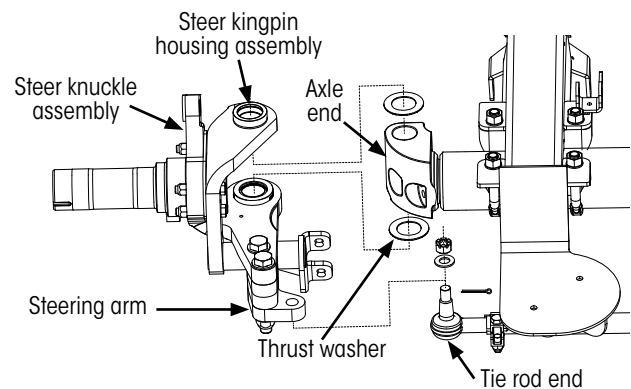

Figure 22: Steer knuckle removal
11. **Remove** the steer knuckle (Figure 22) by sliding it off the axle end. The thrust washer will fall from the connection.